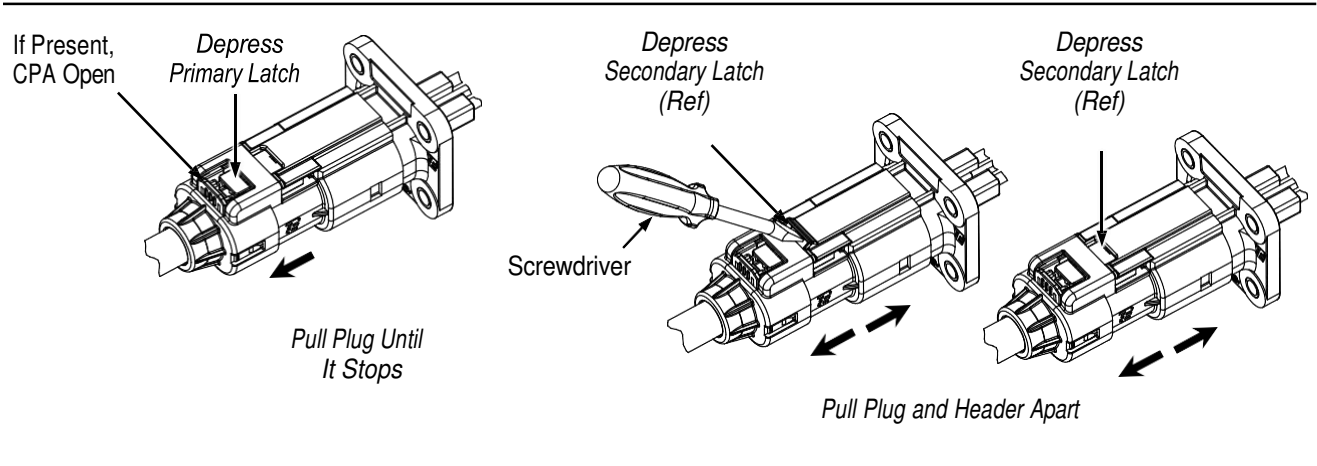

Figure 5
2. If present, open the CPA of the plug by sliding it away from the header. Refer to Figure 5.
3. Depress the primary latch of the plug, and simultaneously pull the plug until it stops. At this point, the connectors are not fully unmated; therefore, do not force the connectors apart. See Figure 5.
4. Using a small screwdriver or fingertip (depending on style of header), depress the secondary latch located in the window just in front of the primary latch, and simultaneously pull the plug and header apart. Refer to Figure 5.